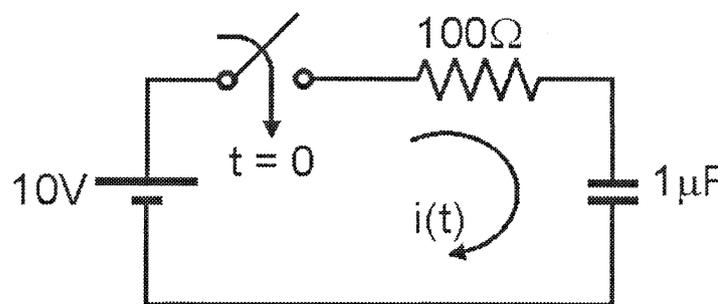

Fig. No.1
- Q1) a) The switch is closed at  $t=0$  for the network shown in Fig. No.1 Find  $i(t)$ ,  $\frac{di(t)}{dt}$  at  $t=0+$ , if the capacitor is initially uncharged. [6]